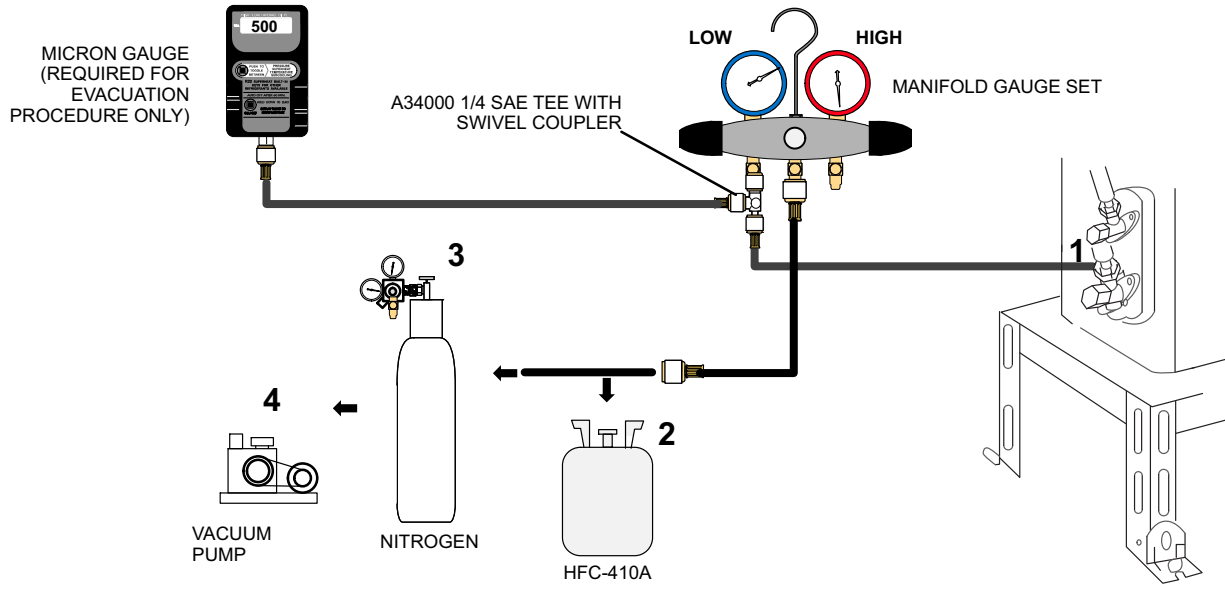

FIGURE 40
1. Connect the manifold gauge set and dry nitrogen gas cylinder to the large line service port as illustrated in figure 40.
1. Connect the gauge set, micron gauge and vacuum pump as shown in figure 40.
2. Verify that the manifold gauge set is connected as illustrated in figure 40.
Connect gauge set to service port as illustrated in figure 40.